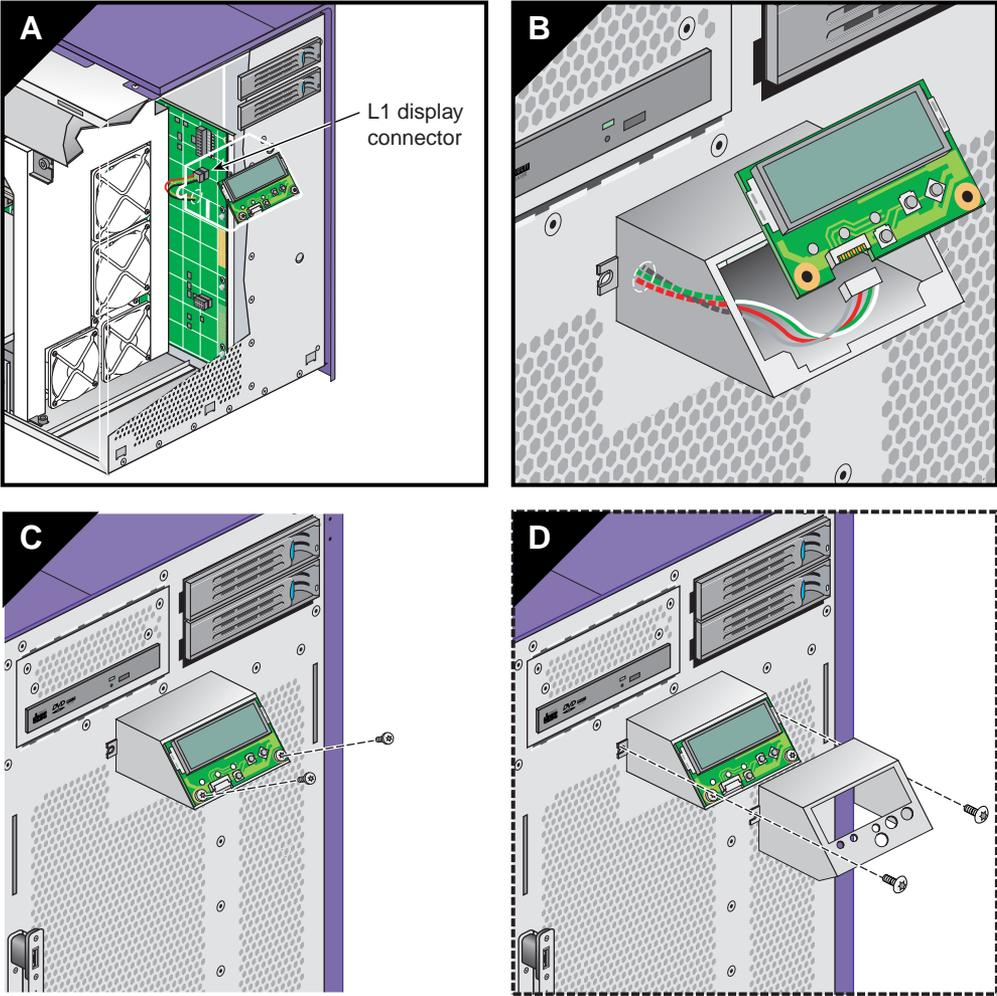

Figure 3-34 Installing the L1 Display Cable
8. Push the L1 display board connector of the replacement L1 display cable out through the hole in the front of the enclosure. Then seat the grommet in the hole (see Figure 3-34).
9. Connect the replacement L1 display cable to the interface board and the L1 display board (see Figure 3-34).
10. Install the two screws that secure the L1 display board to its bracket (see Figure 3-34).
11. Align the hooks on the bracket with the holes in the enclosure. Insert the hooks into the holes, and press down to seat the housing on the front of the enclosure (see Figure 3-34).
12. Slide the outer cover over the L1 display bracket. Then install the two screws that secure the L1 display bracket to the front of the enclosure (see Figure 3-34).